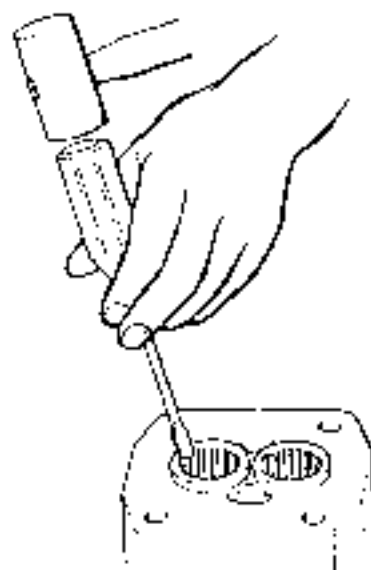

Fig. 13
13. Remove needle bearing ⑭ by driving out the needles one by one with a screwdriver applied to their ends and driving with a hammer. Then, the cage will come out by itself. (Fig. 13)
13. ニードルベアリング⑭の取り外しは、ニードルの端部にドライバーを当て、ハンマで軽く叩き、ニードルをすべて外す。この時、保持器も同時に外れます。(Fig. 13)